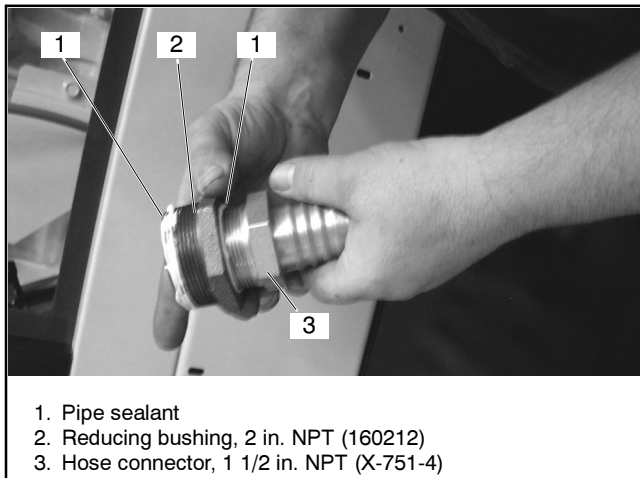

Figure 8 Subassembly of Adapter and Fitting
- 2.1.6 Apply pipe sealant to 2 in. NPT reducing bushing 160212. See Figure 8.
- 2.1.7 Apply pipe sealant to 1 1/2 in. NPT hose connector X-751-4. See Figure 8.
- 2.1.8 Assemble 1 1/2 in. NPT hose connector X-751-4 and 2 in. NPT reducing bushing 160212. See Figure 8.